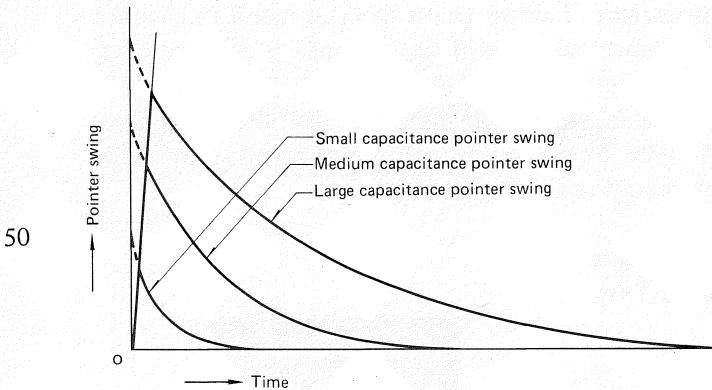
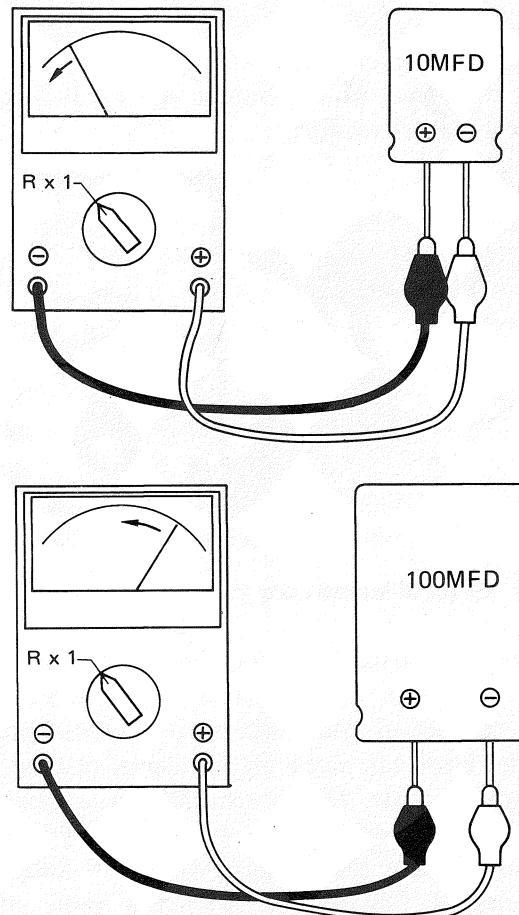

Fig. 4 Relationship between the pointer swing and capacitance
Fig. 5 Capacitance check
An open capacitor can easily be checked by charging up the suspected capacitor with the measurement current of the multimeter, and then reading the charging characteristics of the capacitor (how much the pointer swings). To do this, connect the test leads of the meter to the terminals of the capacitor, as shown in Fig. 5. The measurement current will flow into the capacitor and gradually charge it up. As this happens, the pointer should swing toward the low resistance end of the scale, and then swing back toward  $\infty$  as charging is completed. The farther the pointer swings toward the low-resistance end of the scale the greater the capacitance and the longer the required time for the pointer to swing back to  $\infty$ . In a very large capacitor (more than  $1000\mu F$ ), there is insufficient measuring current to charge up and the pointer merely returns to  $\infty$ . The pointer swing and capacitance value relationship is shown in Fig. 4. If the pointer doesn't deflect at all, you can assume that the capacitor is open.
- Electrolytic capacitors are marked for polarity, and care must be taken to see that it matches the electrical polarity of the multimeter (see Fig. 5).